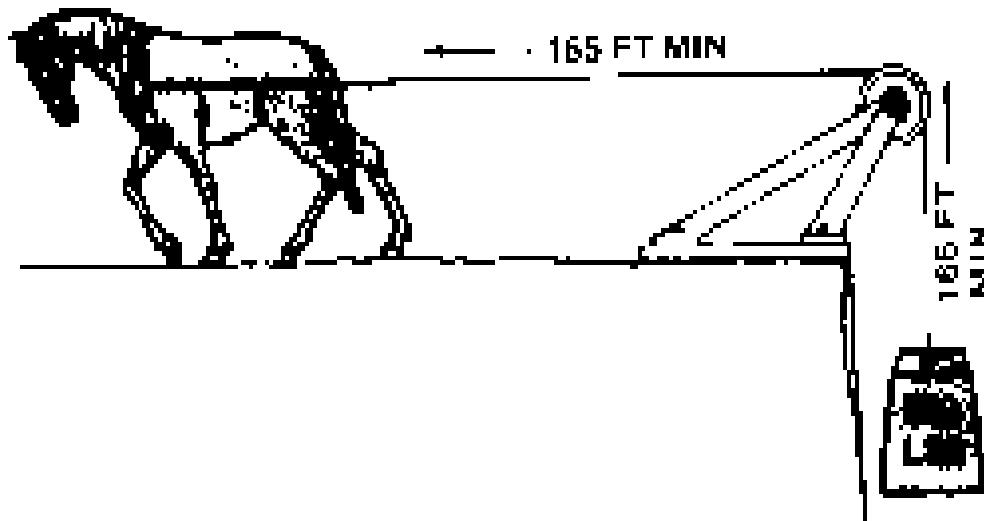

Fig 3, One Horse Can Do 33,000 Foot-Pounds Of Work A Minute.
- (1) The value of micrometer without collar (the length of the body).
- (2) The value of collar is 0.5 inch
- (3) The value of extension rod is 3.0 inch
- (4) The highest figure visible on the sleeve is $3=0.1 \times 3=0.03$ inch.
- (5) The lines visible on sleeve between the highest figure 3 and measuring head (thimble) is $2=0.025 \times 2=0.050$ inch.
- (6) The lines on the measuring head which have passed sleeve datum line is $12=.001 \times 12= \frac{0.012}{5.362 \text{ inch}}$